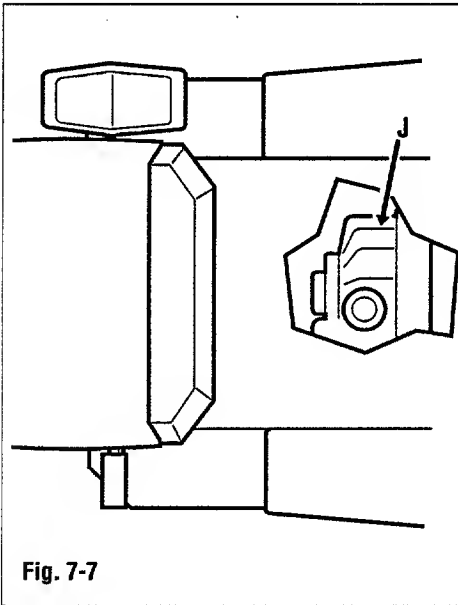

Fig. 7-7
1. Remove all dirt from around transmission filler area. Clean transmission cooling fins (J, Fig. 7-7, page 23). If tractor is operated in a dusty environment, check and clean cooling fins more frequently.